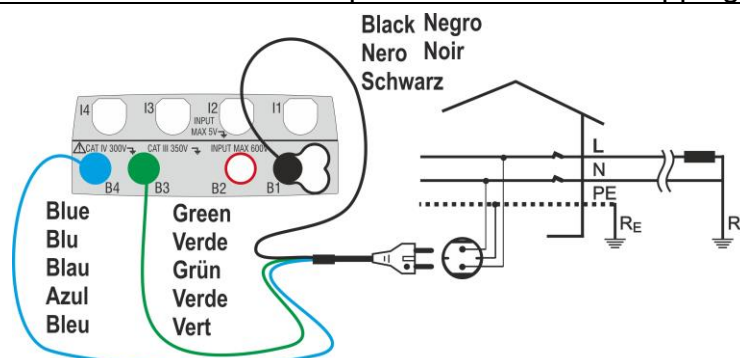
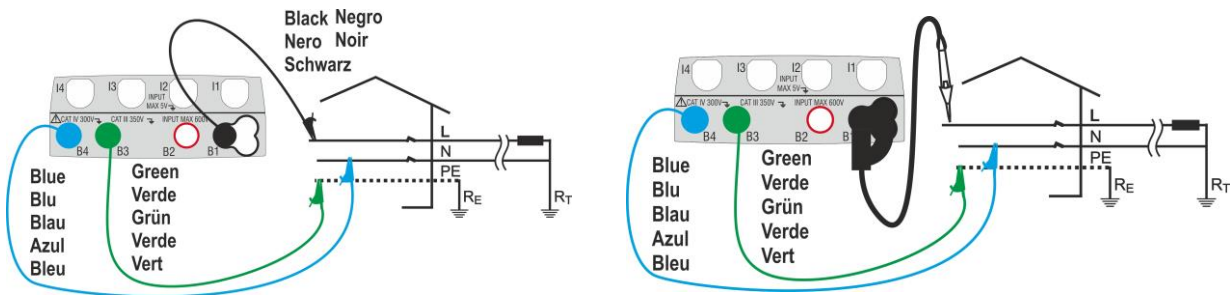
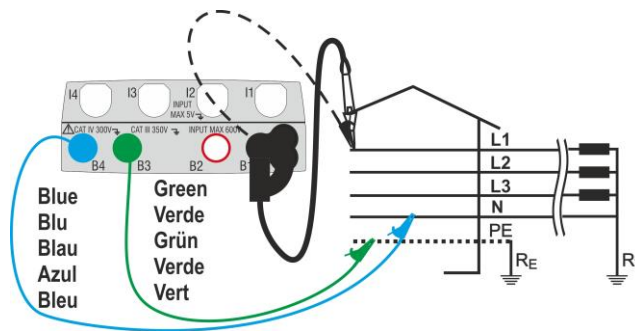
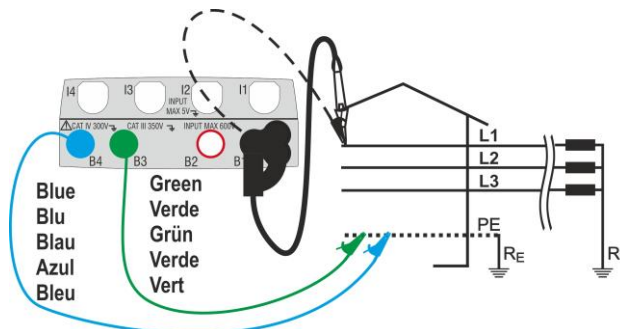

Fig. 17: L-N/L-PE measure for single-phase systems with shuko plug
Fig. 18: L-N/L-PE measure for single-phase/two-phase with cables and remote lead
Fig. 19: L-N/L-PE test for three-phase systems by means of single cables and remote lead
Fig. 21: L-PE/L-N test for three-phase systems (no N) by means of single cables and remote lead
4. Connect the shuko plug, the alligator clips or the remote lead to the electrical mains according to Fig. 17, Fig. 18, Fig. 19 and Fig. 21.
4. If possible, disconnect all loads connected downstream of the measured point, as the impedance of these users could distort the test results. Connect the shuko plug, the alligator clips or the remote lead to the electrical mains according to Fig. 17, Fig. 18, Fig. 19 and Fig. 21 in the nearest possible point to the protection device